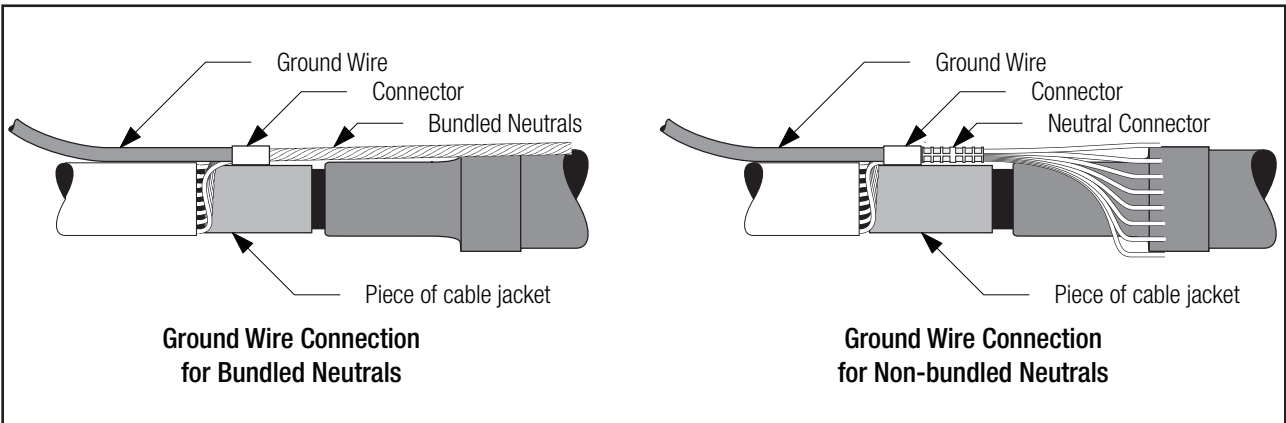

Figure 21
- 6.1 Connect a ground wire to the neutrals, in the area where the splice diameter is reduced. To protect the cable semicon, place a piece of cable jacket (removed during the cable preparation) under the ground connector. Ensure that the cable jacket piece does not touch the splice body. Keep connector profile as low as possible. For C-Tap or H-Tap connectors, position flat against the cable (*Figure 21*).